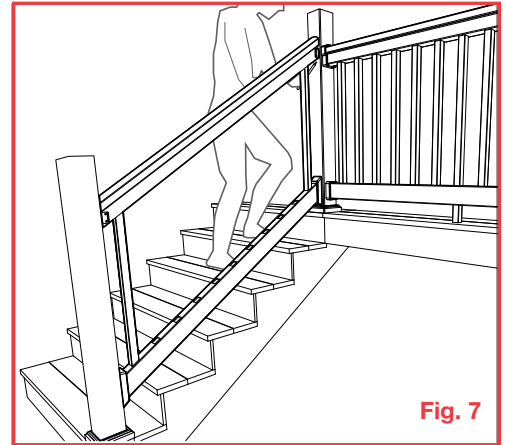

Fig. 7
10. Determine the location of the top rail metal brackets (marked "T"). Insert balusters in the first and last holes of the bottom rail. (Fig. 7) Align top rail over the balusters and install. Ensure the top rail is fully nested and level with the bottom rail. Position the top rail metal brackets on the rail and mark the bracket locations on each post.